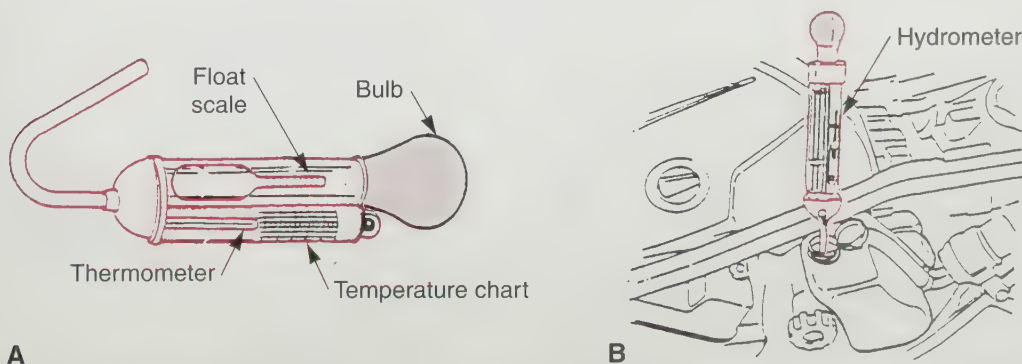

Figure 11-11. A—A typical coolant hydrometer. B—Using the hydrometer to check the coolant temperature range. (Honda Motor Co., Ltd.)
2. Holding the hydrometer in a straight, vertical position, squeeze the bulb and pull enough coolant into the glass tube to raise the hydrometer float, **Figure 11-11**. Make sure the float does not touch the sides of the large tube.